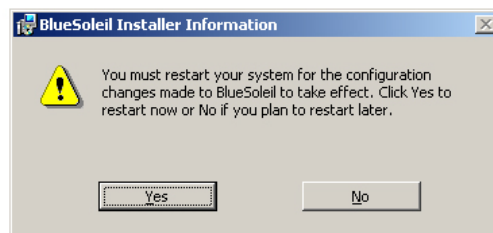

Figure 7-37: Reboot the Computer
Step 11: To complete the chipset driver installation, click **FINISH**. The user is then prompted to select to restart the computer now or later (**Figure 7-37**). For the settings to take effect, the computer must be restarted. Click **Yes** to restart the computer.